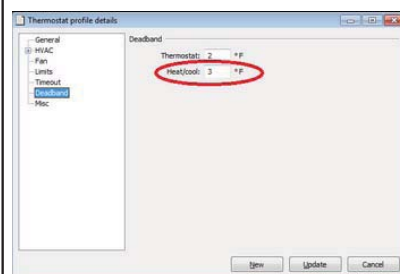

Figure 57
2. If the pipe sensor is an *1k NTC resistor*, a **Trigger level** (in the range 0-100%) for switching between heat and cool should be entered. When the temperature reaches the switch-over-temperature (default 3 °F; this is chosen under the **Deadband** alternative in the **Thermostat profile details** dialog, see Figure 57), it is checked whether the pipe sensor has reached the trigger level so that the thermostat can change mode from heating to cooling or vice versa.